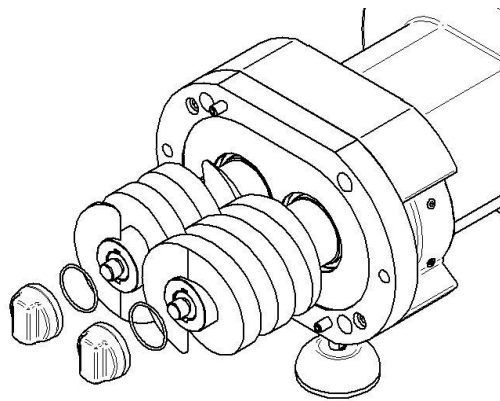

Fig. 34 – assembly of cap screw
- Type 1: electric motor CW direction of rotation. Position of the screws and fluid direction as shown in Fig.34, discharge side on the top of the pump.